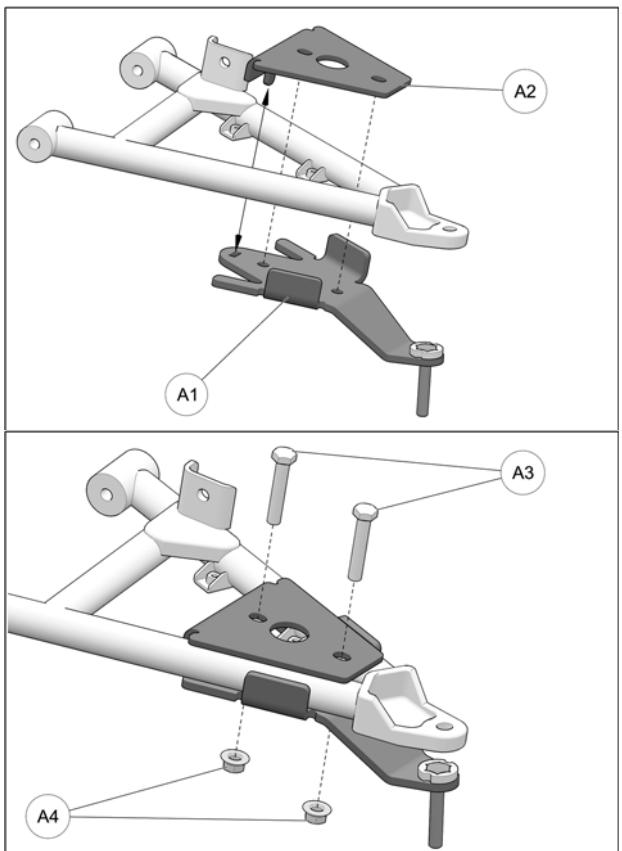

Fig. 15
5. Position bottom part of anchor bracket (**A1**) assembly under front lower suspension arm, as shown in the figure below. Position bracket cover (**A2**) over suspension arm and align holes in cover and bottom part. Insert the M10x55mm bolts (**A3**) from the top and secure the two parts together with the nuts (**A4**) provided. Tighten assembly to 50 N·m [37 lb·ft] of torque. Refer to Fig. 15